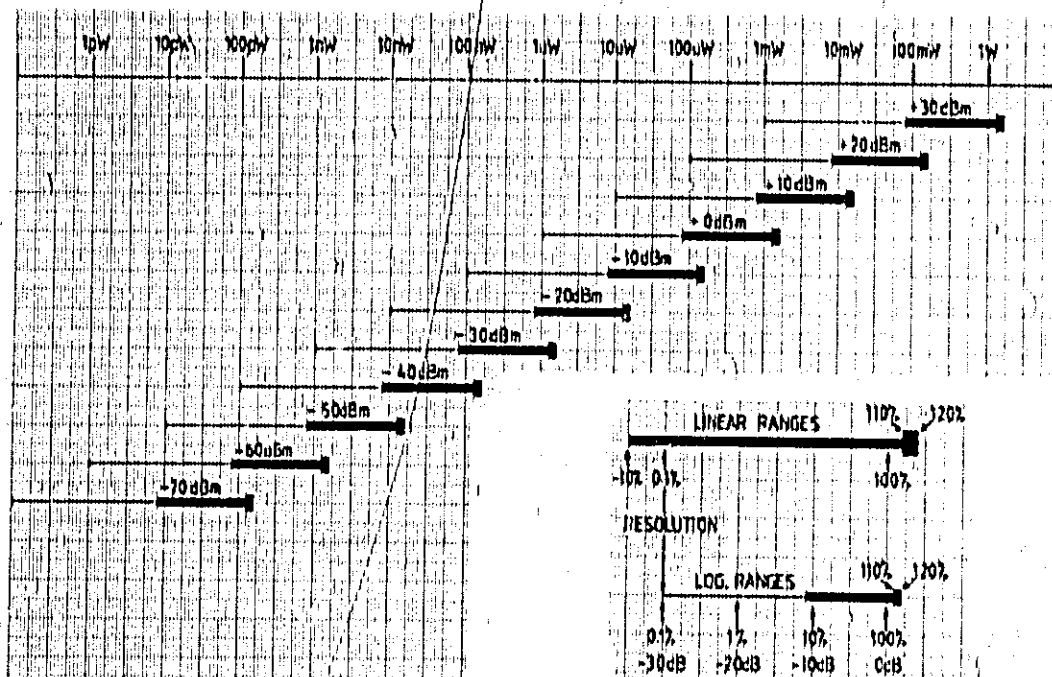

Figure 3-4. 8151A ranges
- the measured signal is outside the selected range. The digital display provides the indicators for overranging. Refer to Figure 3-4 for details.
3-18 The 8151A performs peak and average measurements throughout eleven specified ranges (+30 dBm to -70 dBm). The number of ranges actually used, however, depends upon the type of optical head connected. For example, the 8151A optical head utilizes ranges +10 dBm through -60 dBm. Figure 3-4 illustrates the 8151A measurement ranges. Measurement results can be displayed linearly in Watts, or logarithmically in dBm and dB (rel). Figure 3-4 further shows the absolute range limits imposed at +/-10% of full-scale (linear), and the corresponding equivalents for